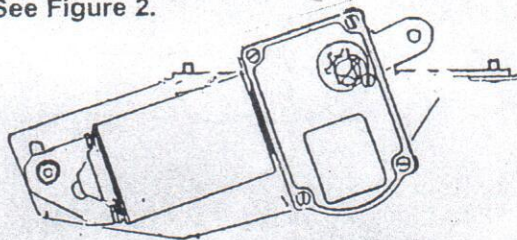

Figure 2.
3. Install the wiper drive assembly. Attach the motor mounting plate to the original factory mounting bracket. See Figure 2.